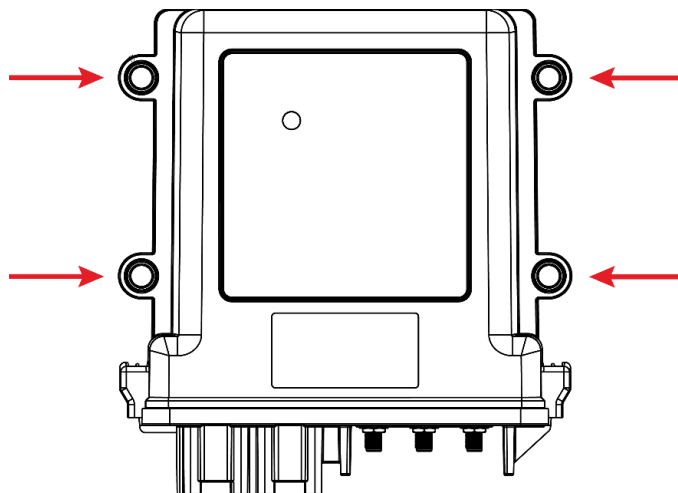

Figure 9: Gateway mounting holes
2. On the back of the air cart frame, mark the location of the four mounting holes shown in Figure 9. Remove the gateway and drill out the holes using a 5/16 inch or 8 mm drill bit.